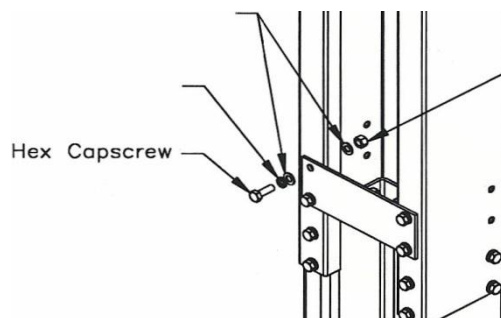

Figure 2
* Assemble column extension to each column using (12 sets) M12 x 35 Hex bolts, flat washers, lock washers and nuts. Repeat for opposite column and extension. Refer to Fig. 2 below.